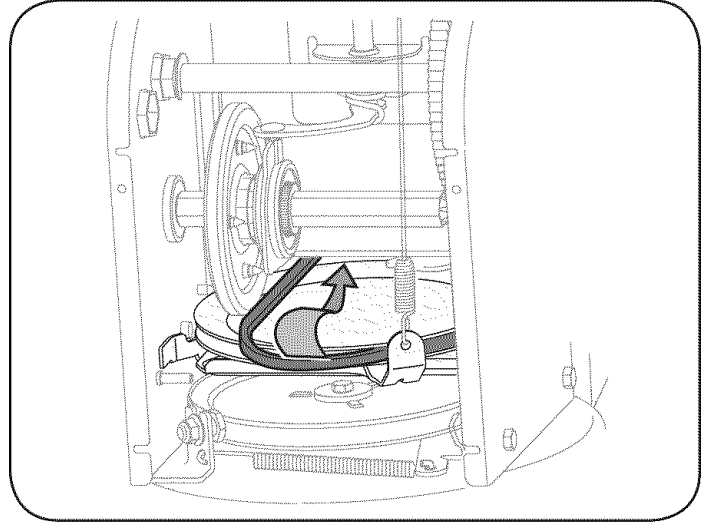

Figure 27
6. Slip the drive belt off the pulley and between friction wheel and friction wheel disc. See Figure 27.